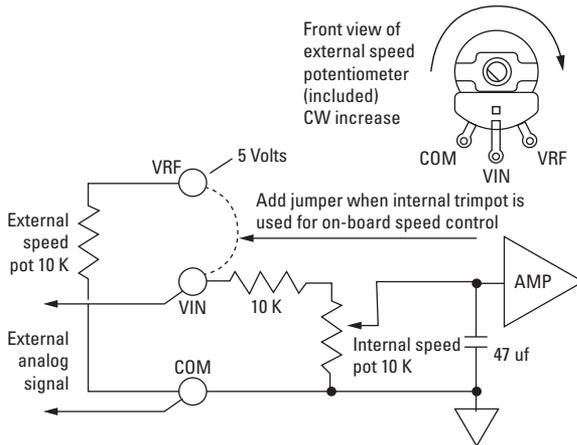
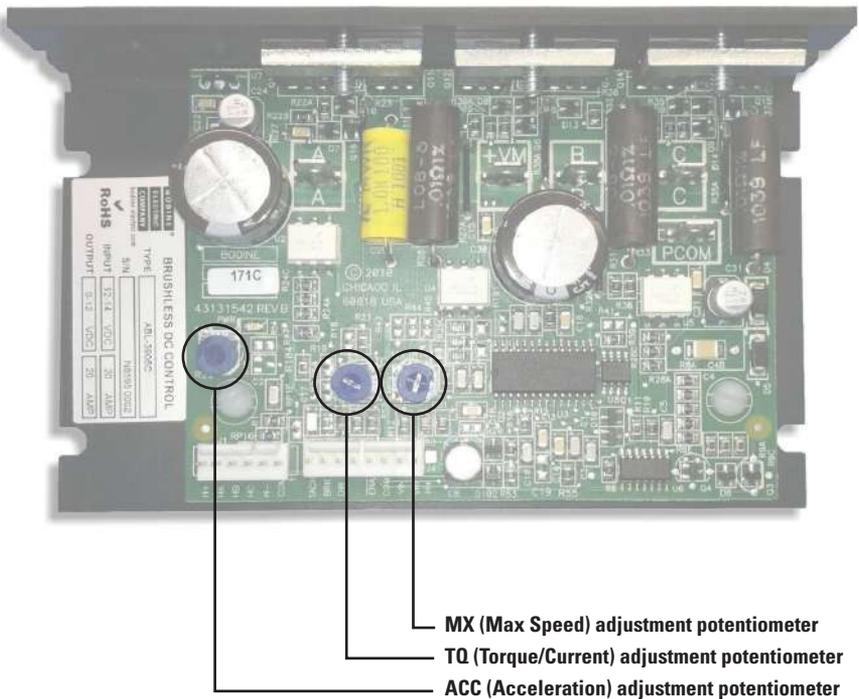

Figure 5 – Internal and External Speed Potentiometer Connections
Figure 8 – Trim potentiometer locations
- d. Refer to Figure 5 and insert the potentiometer leads into the interface connector as follows:
2. Controlling Speed With an Analog Input Voltage: Motor speed can be controlled by with a 0 to 5 VDC analog input signal (for applications where the motor and control are part of a larger control system). Apply the 0-5 VDC signal across the VIN and COM terminals of the interface connector J4. Refer to Figure 5. Speed is increased by increasing the voltage level applied to VIN (Pin J4-2). 0 VDC = 0 RPM; 5 VDC = Max. RPM. This input may be configured for either internal or external speed command operation. If the motor/control system is part of a larger motion control system, the speed may be controlled by a microprocessor or PLC provided a digital to analog converter is used to interface the output of the system control and the speed input of the ABL-3906C control.
3. Controlling Speed with the On-board Trim Potentiometer: Motor speed can be controlled using the on-board MX potentiometer (for applications requiring infrequent adjustment of speed or fixed speed operation). See Figure 8 for the location of the MX potentiometer. In order for the MX potentiometer to function as a speed control, a jumper must be placed across terminals VRF and VIN on the interface connector as indicated by the dashed line in Figure 5. Form a jumper from a short length of wire terminated on each end with the pins supplied with the interface connector. Clockwise rotation of the MX potentiometer increases motor speed.
Torque (Current) Limiting Adjustment: The TQ trim potentiometer (Figure 8) has been calibrated so that the control output current limit is 150% of the control's nameplate current rating. That is, the peak current limit of the 12 volt model is factory-set to 30 Amps and the peak current limit of the 24 volt model is factory-set to 27 Amps. In some cases, it may be desirable to reduce the peak current limit to a level less than the factory setting, in order to protect drive mechanisms, such as gearing, from damage due to overloads. Turn the TQ trim potentiometer counterclockwise to decrease the torque and clockwise to increase the torque.
Acceleration Adjustment: Trim potentiometer ACC (See Figure 8) can be used to adjust the motor's acceleration time. A counterclockwise adjustment decreases the acceleration time down to a minimum of approximately 0.35 seconds. A clockwise adjustment increases the rate up to a maximum of approximately 8 seconds.
Speed potentiometer is wired incorrectly (if external potentiometer is being used)	<ul style="list-style-type: none"> • Check wiring for external speed potentiometer. Correct if necessary. Refer to Figure 5.
No jumper wire between VRF and VIN (if on-board potentiometer is being used)	<ul style="list-style-type: none"> • Check for jumper between VRF and VIN. Correct if necessary. Refer to Figure 5.
No speed signal (if remote analog signal is being used)	<ul style="list-style-type: none"> • Check wiring for remote speed signal. Correct if necessary. Refer to Figure 5.
Jumper mistakenly placed across VRF and VIN (if an external speed pot or analog signal is used)	<ul style="list-style-type: none"> • Remove jumper across VRF and VIN. Refer to Figure 5.